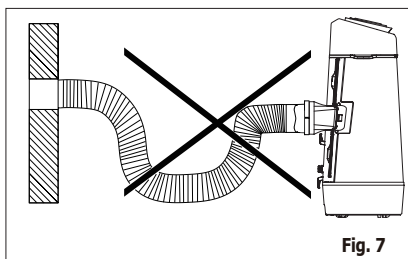

Fig. 7
- i** The hose can be extended from its original length of 38cm up to 150cm, but it is the best to keep the length to minimum required. Also make sure that the hose does not have any sharp bends or sags. (Fig. 7)